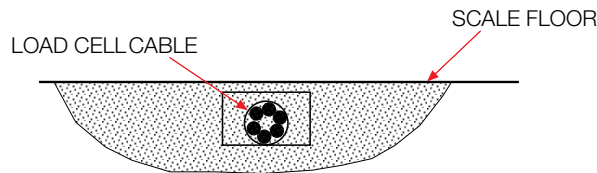

Figure 2-5. Cable Protection
- 7. The cable must be routed to the indicator in a manner that will protect the cable from damage. The method of cable protection in non-washdown applications is shown in Figure 2-5. Leave a loose coil of excess cable under the scale to facilitate lifting of the scale for servicing and cleaning.